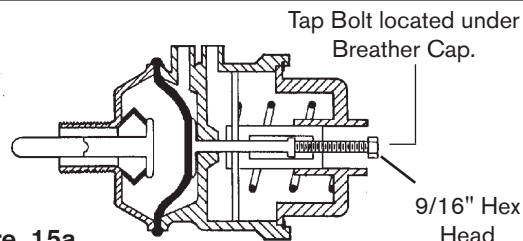

Figure 15a
2. Using a 9/16 inch socket wrench, turn the tap bolt counterclockwise until the brake is released (approximately 40 turns) (See Figure 15a).